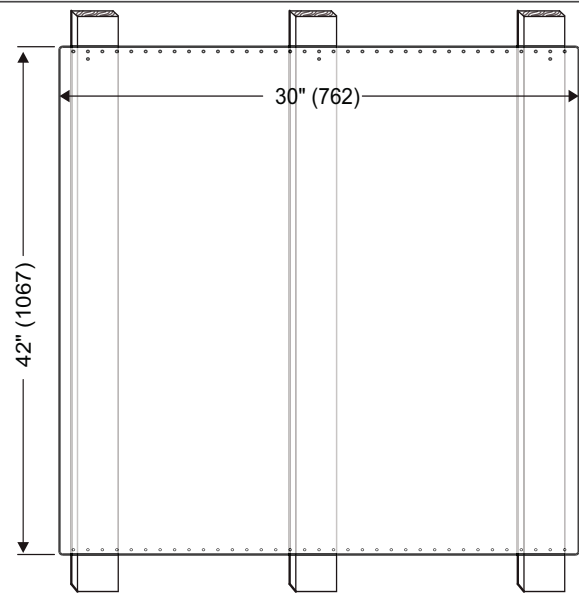

Figure 9: Backsplash Installation
3. Per each wall stud, use (2) 1" (25.4 mm) Phillips head screws to secure both the top and bottom of the Backsplash (see Figure 9). Space screws evenly across top and bottom of Backsplash.